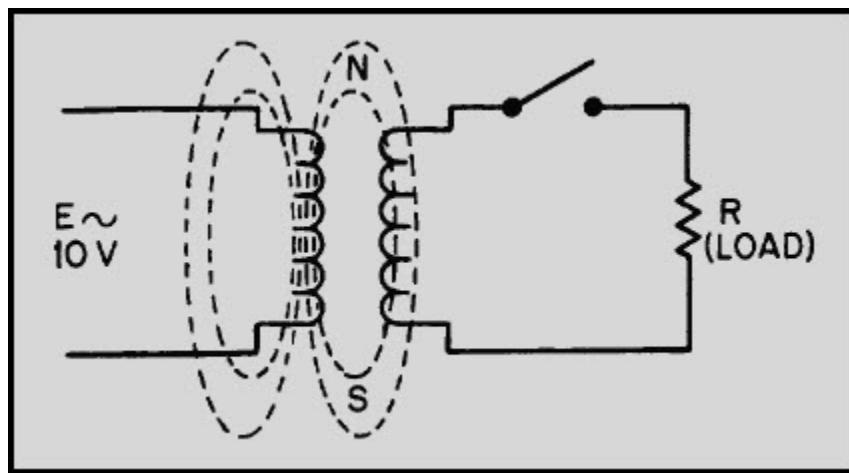

Figure 5-8 Transformer under no-load conditions
A no-load condition is said to exist when a voltage is applied to the primary, but no load is connected to the secondary, as illustrated by figure 5-8. Because of the open switch, there is no current flowing in the secondary winding. With the switch open and an ac voltage applied to the primary, there is, however, a very small amount of current called EXCITING CURRENT flowing in the primary. Essentially, what the exciting current does is "excite" the coil of the primary to create a magnetic field. The amount of exciting current is determined by three factors: (1) the amount of voltage applied ( $E_a$ ), (2) the resistance ( $R$ ) of the primary coil's wire and core losses, and (3) the  $X_L$  which is dependent on the frequency of the exciting current. These last two factors are controlled by transformer design.
To visualize how a voltage is induced into the secondary winding of a transformer, again refer to figure 5-8. As the exciting current flows through the primary, magnetic lines of force are generated. During the time current is increasing in the primary, magnetic lines of force expand outward from the primary and cut the secondary. As you remember, a voltage is induced into a coil when magnetic lines cut across it. Therefore, the voltage across the primary causes a voltage to be induced across the secondary.